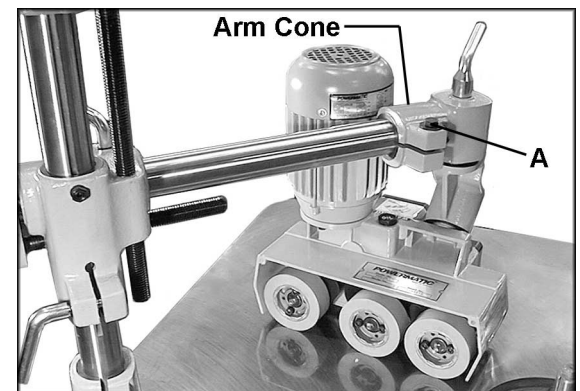

Figure 5
11. Rest the Stock Feeder on the mounting surface, as shown in Figure 5. Lower the horizontal arm by rotating the top hand wheel until the arm is at a convenient height for mounting the Stock Feeder. (See "Basic Feeder/Stand Movements" for detailed explanation of stand movements.)
12. Make sure the hex cap screw (A, Figure 5) is loosened on the sleeve of the Stock Feeder. Use a 14mm wrench.
13. Slide the arm cone of the Stock Feeder onto the horizontal arm as far as it will go, then tighten the hex cap screw (A, Figure 5).